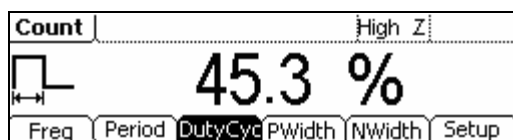

Figure 3-15
(3) Duty cycle view: press **DutyCyc**, the Duty cycle will display as figure 3-15;